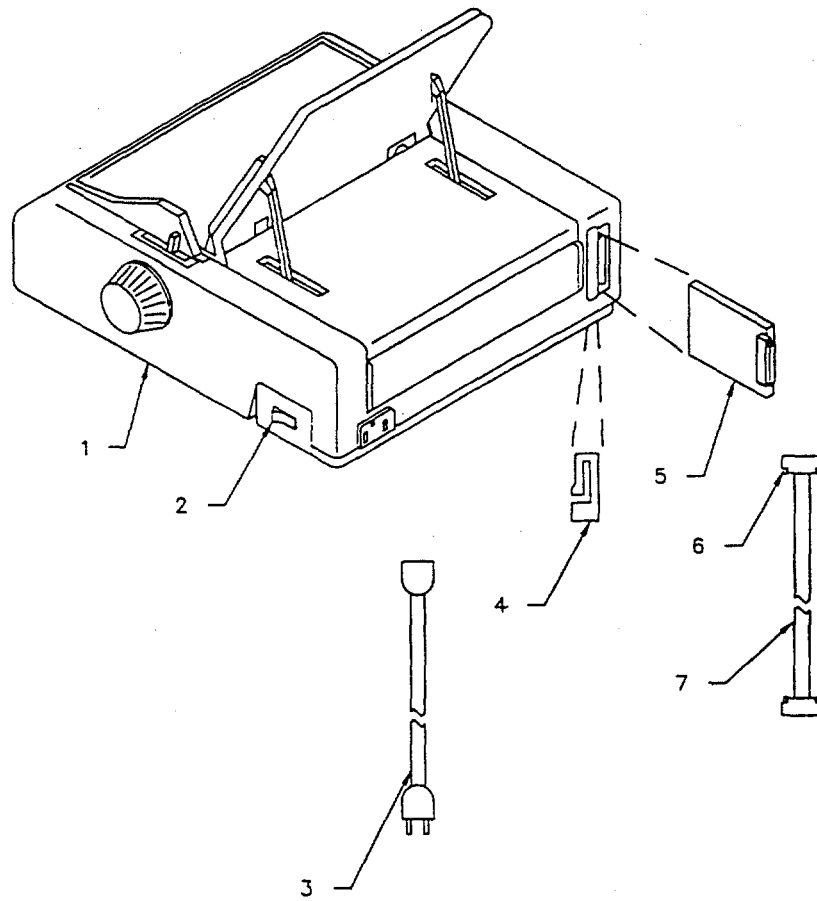

Figure 3-32. Printer Serial Interface Printed Wiring Assembly
- (1) Install Serial Interface Card.
- (2) Connect serial interface cable (9) to serial interface PWA connector (14) by tightening two captive screws on serial interface cable connector.
- (3) Connect printer ac power cable (13) to printer (10) and power source.
- (4) Press printer power switch (12) to on position to apply power to printer.
- (5) Insure printer set-up parameters are correct. (ref. Appendix E pg.E-55)
**3-25. REPLACE PRINTER SERIAL INTERFACE PWA.** (Figure 3-32).